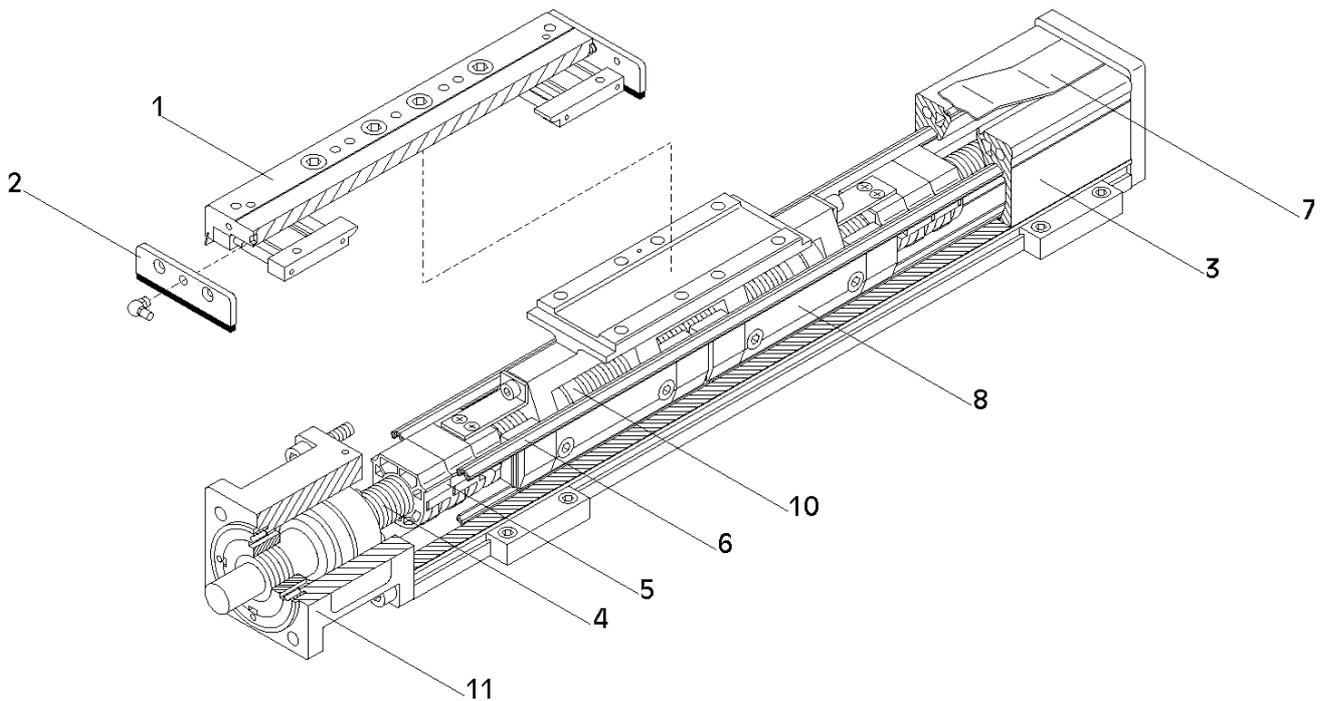

Fig. 2
**Fig. 2:** On the POWERLine® series, sizes WM60, WM60-370, WM60-500, WM80, WM80-370 and WM120, an additional ball return guide (8) is integrated in the tubular section.
**Fig. 2:** On the sizes WM60, WM80 and WM120 of the POWERLine® series, four ball-bearing guided carriages, on sizes WM60-370, WM60-500 and WM80-370 two covered ball-bearing guided carriages (8) transmit the moments from the sliding carriage to the tubular section. The balls run in hardened guide ducts (6). Lubrication is by central grease nipple and grease ducts (see Chapter 5 "Lubrication").